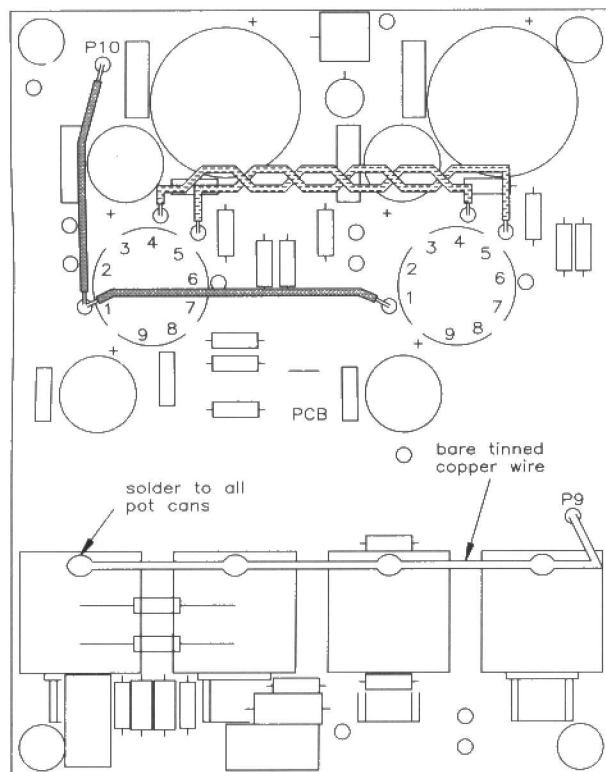

Figure 5. Onboard heater, supply and earth wiring.
Similarly fit the 1M lin. pot at RV3, and the 10k logarithmic pot at RV4. Next it is necessary to connect the metal bodies of all four potentiometers to OV. This is to provide screening of the internal tracks and wipers, which normally occurs if the pots are mounted in earthed metalwork. However, because in this case they are not physically attached to any metalwork, unwanted noise pick-up can result, aggravated by the bodies themselves acting as 'aerials'. Using tinned copper wire or stripped bell wire, join all four cans together with a single length, with a solder joint at top rear of each can, with one end terminated at P9 on the PCB (OV), see Figure 5. This could be awkward to do unless you have a powerful soldering iron (25W minimum), but the screens are normally plated steel and take solder readily.
With two lengths of black bell wire tightly twisted together, join V1 pin 4 to V101 pin 4, and V1 pin 5 to V101 pin 5, wrapping them around the PCB pins, see Figure 5. Pin numbering for all the valves is clockwise as viewed from the component side of the board, and always with pin 9 at the bottom.